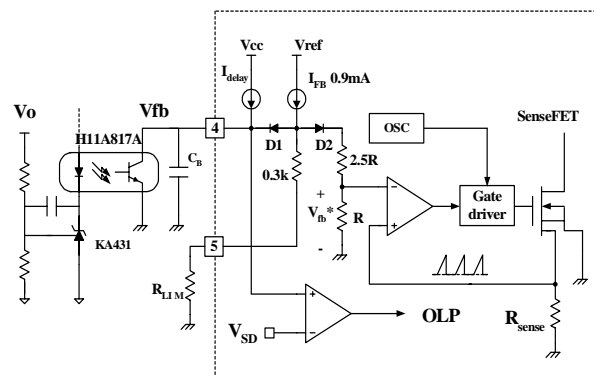

Figure 6. Pulse width modulation (PWM) circuit
**2. Feedback Control :** FSCM0565R employs current mode control, as shown in Figure 6. An opto-coupler (such as the H11A817A) and shunt regulator (such as the KA431) are typically used to implement the feedback network. Comparing the feedback voltage with the voltage across the Rsense resistor makes it possible to control the switching duty cycle. When the reference pin voltage of the KA431 exceeds the internal reference voltage of 2.5V, the H11A817A LED current increases, thus pulling down the feedback voltage and reducing the duty cycle. This event typically happens when the input voltage is increased or the output load is decreased.
**2.1 Pulse-by-pulse current limit:** Because current mode control is employed, the peak current through the Sense FET is determined by the inverting input of PWM comparator ( $V_{fb}^*$ ) as shown in Figure 6. When the current through the opto transistor is zero and the current limit pin (#5) is left floating, the feedback current source ( $I_{FB}$ ) of 0.9mA flows only through the internal resistor ( $R+2.5R=2.8k$ ). In this case, the cathode voltage of diode D2 and the peak drain current have maximum values of 2.5V and 2.5A, respectively. The pulse-by-pulse current limit can be adjusted using a resistor to GND on current limit pin (#5). The current limit level using an external resistor ( $R_{LIM}$ ) is given by